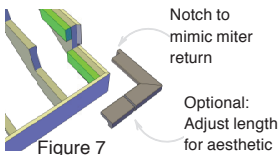

Figure 7
- Cut and pre-assemble the trims for each step. * For Pre-Fab Corners, see figures 7 and 8.